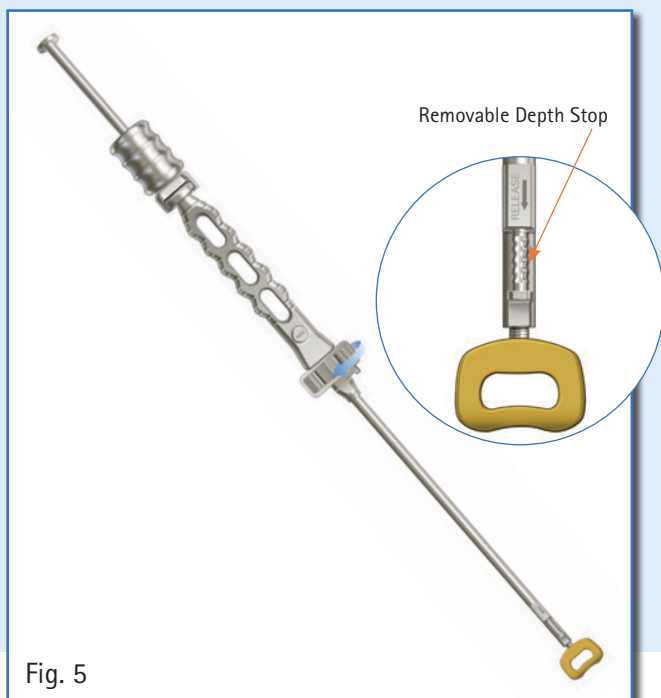

Fig. 5
- Thread the trial implant onto the trial insertion instrument by turning the large proximal knob in a clockwise direction (Fig. 5).